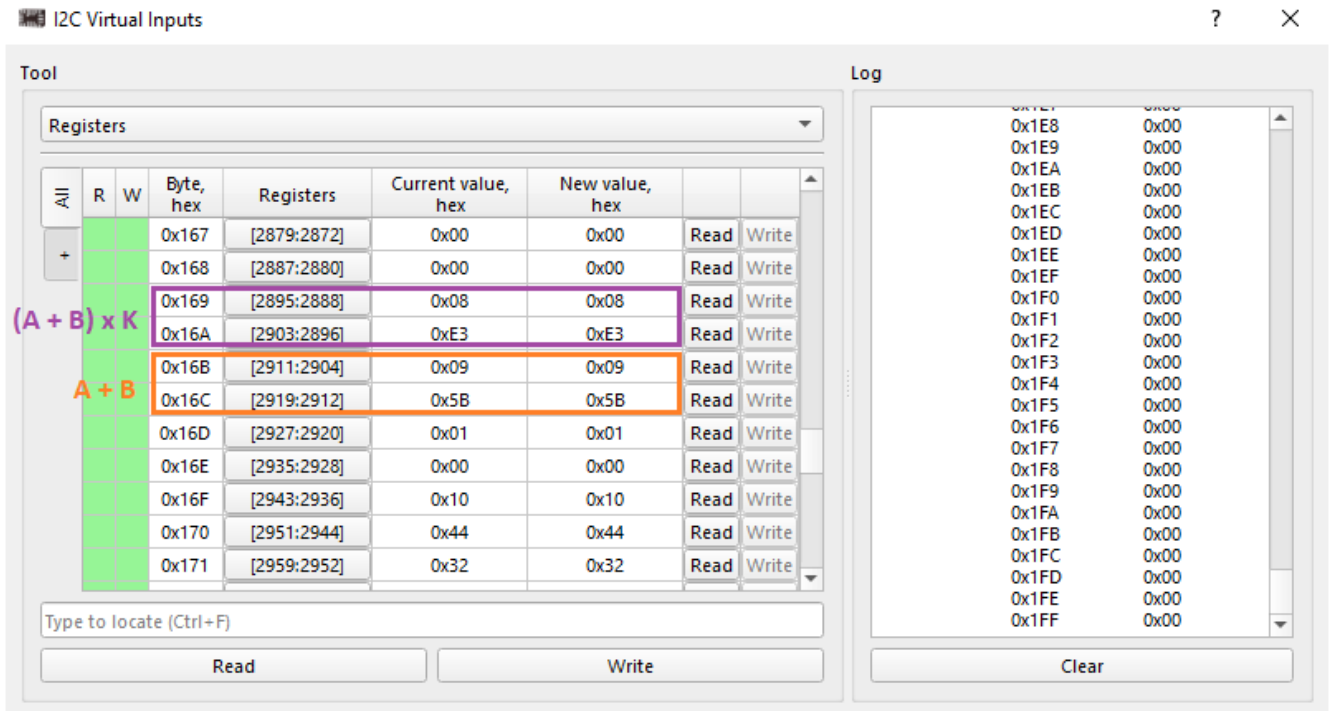

Figure 4. Math Core Values
2. For each temperature range, tune the corrected offset B of the pressure sensor with no load via I2C/SPI (Registers -> Bytes 16B and 16C, see Figure 4).
3. Load the sensor with a known load and compare the obtained value with the predicted one. Tune the gain error K (Bytes 169 and 16A, see Figure 4).